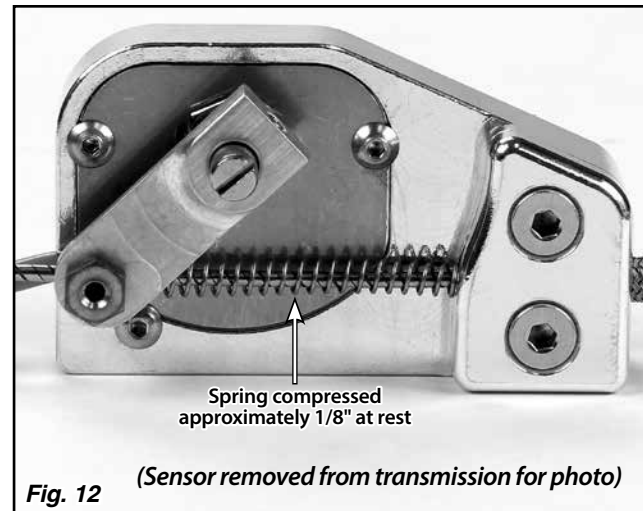

Fig. 12
Step 13: Make sure the transmission is in Park. **Push the sensor arm up against the spring, so the spring is compressed approximately 1/8" at rest in Park.** Fig. 12 Tighten the set screw in the index cable stop on the sensor arm using a 1/16" Allen wrench. Trim the excess inner wire, leaving about 1" protruding.